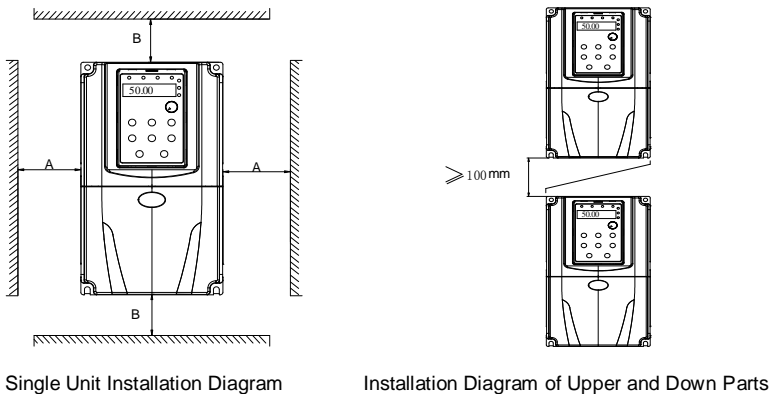

Figure 3-1 Installation Diagram
- 1) Install the inverter vertically so that the heat may be expelled from the top. However, the equipment cannot be installed upside down. If there are multiple inverters, parallel installation is a better choice. In applications where the upper and lower inverters need to be installed, please refer to Figure 3-1 “KE300A Series Inverter Installation Diagram” and install an insulating splitter.
- 2) The mounting space should be as indicated as Figure 3-1, so as to ensure the heat dissipation space of the inverter. However, the heat dissipation of other devices in the cabinet should also be taken into account.